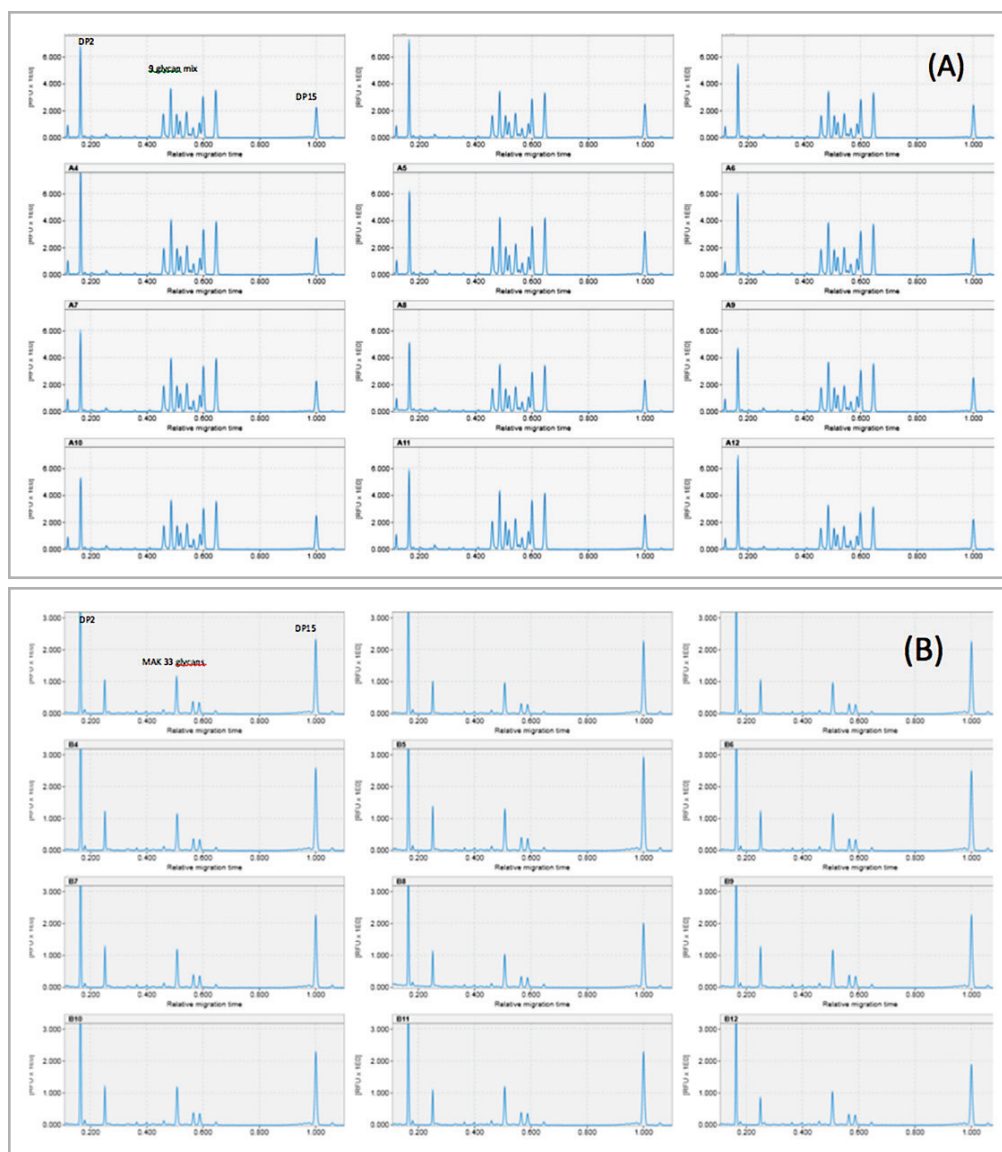

Figure 7. Reproducibility of runs: (A) 9 glycan panel and (B) MAK33 glycans.
Figure 7 shows 12 separations of (A) the 9 glycan panel and (B) the N-linked glycans released from MAK33. Each graph represents one capillary.